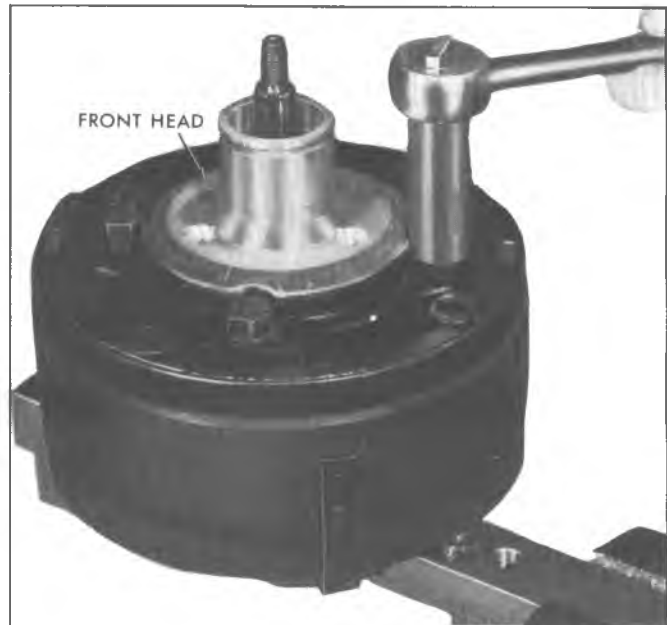
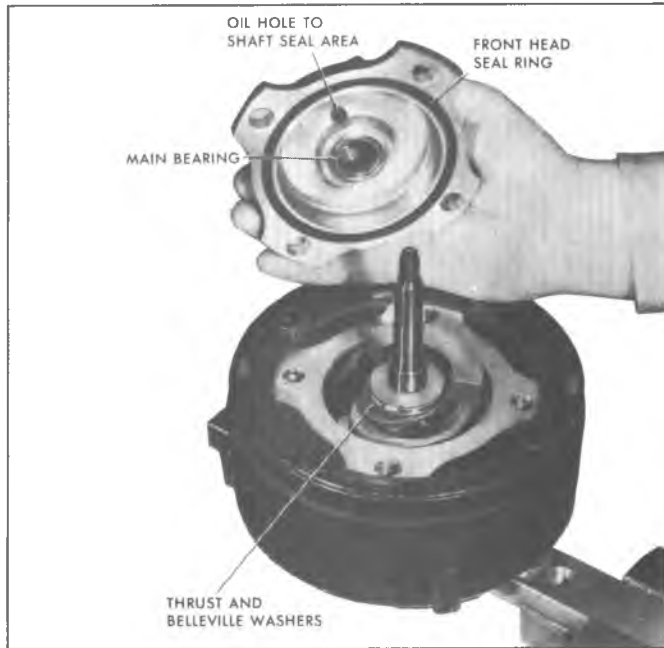

Fig. 18—Remove Front Head Assembly
Fig. 19—Installing Front Head
3. Remove the four front head mounting screws (Fig. 18) and remove front head assembly and discard seal ring. At this point front head and bearing assembly, front head seal ring (Fig. 19) or the Belleville and thrust washers may be replaced.
2. Dip new front head seal ring in 525 Viscosity oil and install seal in seal groove of front head (Fig. 19).